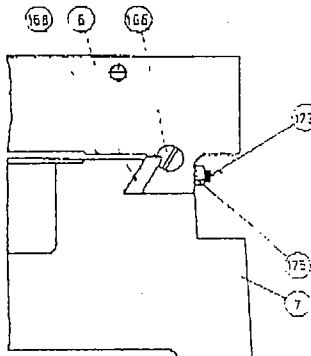

FIG. 5
- C. To adjust before and after travel, adjust large screw (Part#166) as shown in Fig. 5